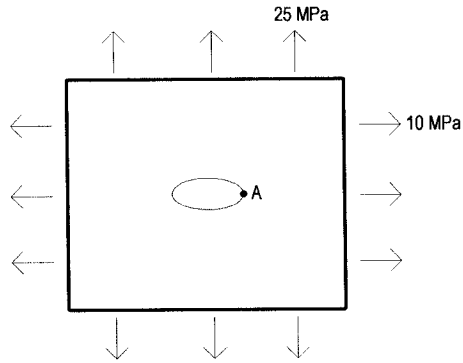

Fig 1b
- (b) The thin rectangular plate in Fig. 1b is subjected to the in-plane loading as shown. The plate contains an elliptical cut-out where the dimensions of the ellipse are much less than that of the plate. If the aspect ratio of the ellipse is 7, determine the magnitude of the stress at point A – the tip of the major axis. (10 marks)